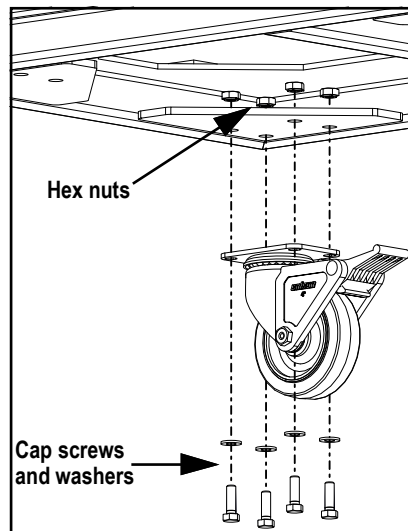

Figure 2-1. Caster Installation
1. Insert four 5/16 in hex cap screws through washers and caster plate into the mounting plate on the cart frame (see Figure 2-1).